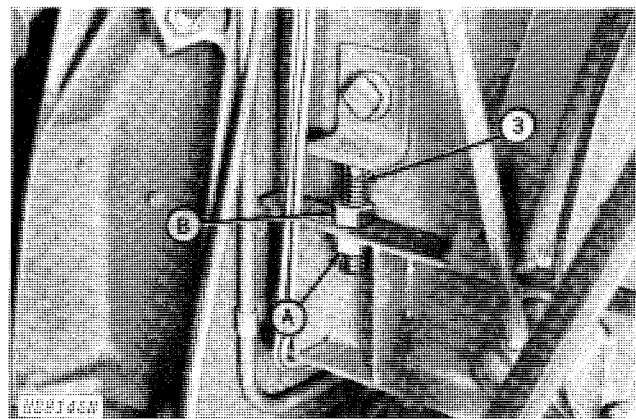

Fig. 34-Concave Leveling Bolt
3. If the two measurements are not equal, level the concave with the adjusting bolt on the left-hand side (Fig. 34).
To raise concave, loosen nut "A" and tighten nut "B" (Fig. 34). To lower concave, loosen nut "B" and tighten nut "A."